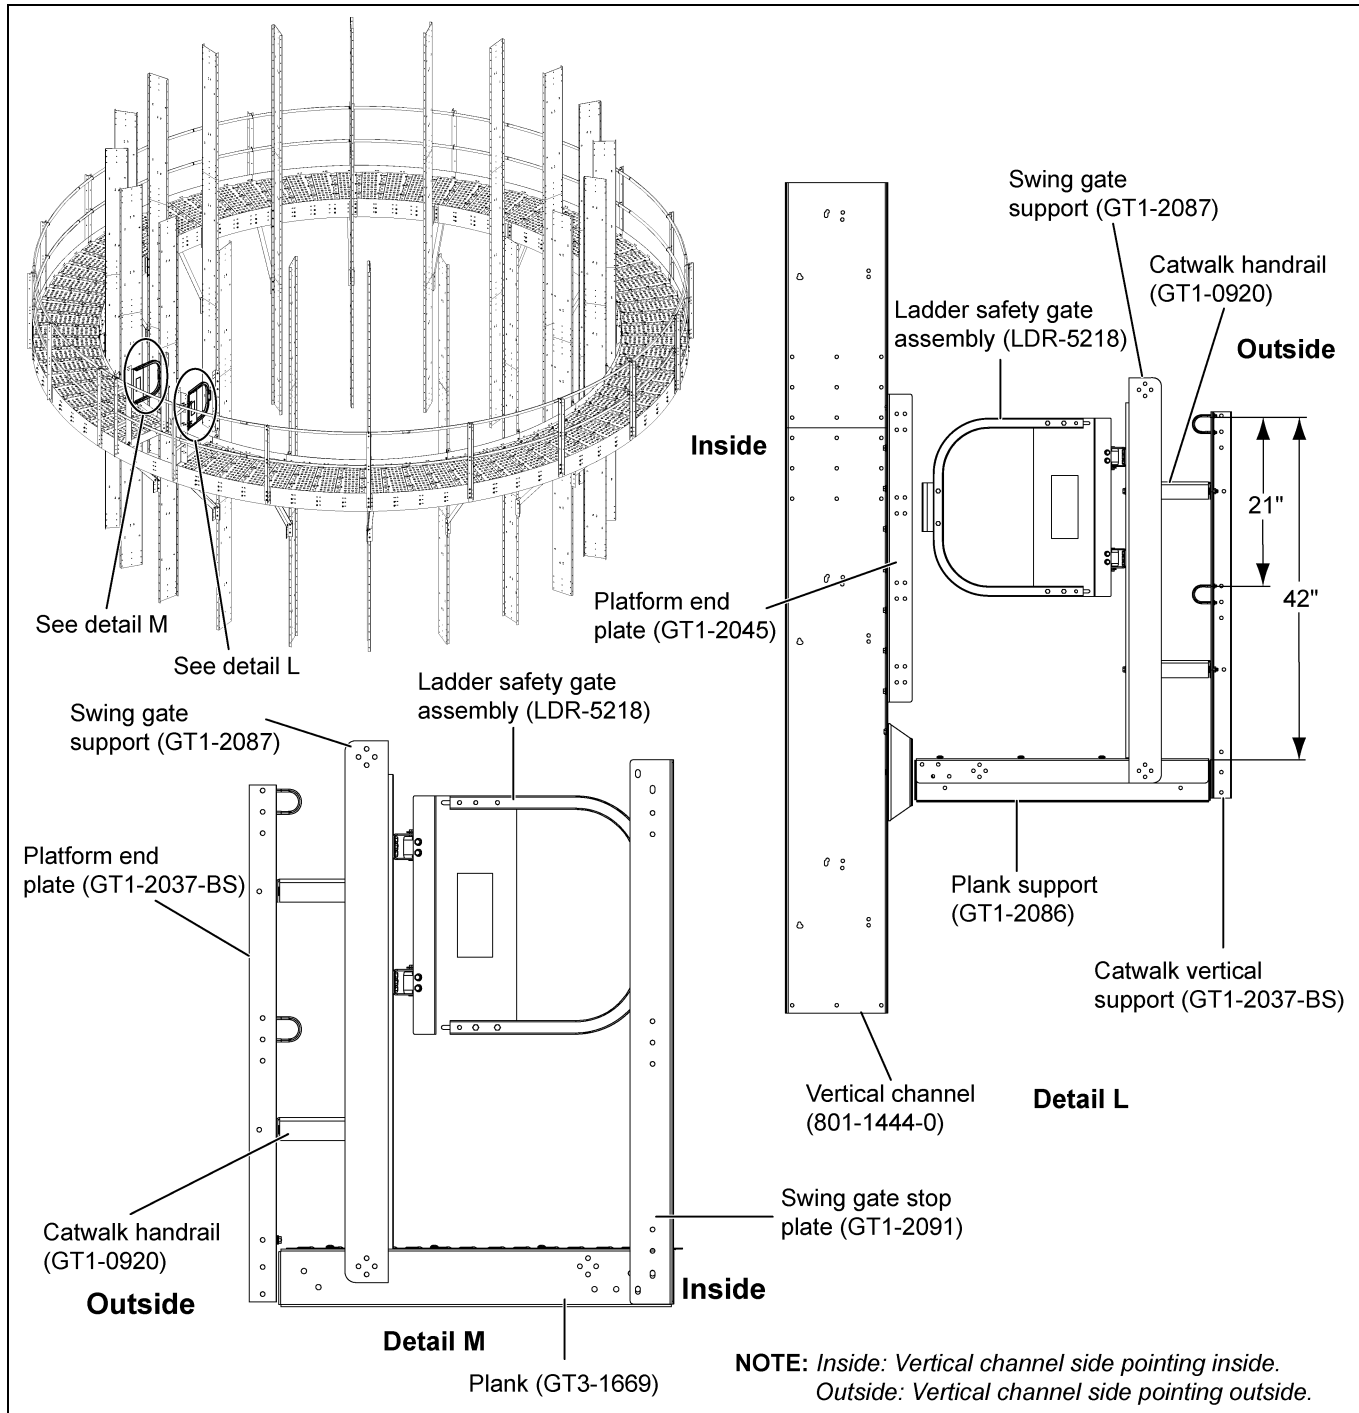

Figure 4Y
5. Install the ladder safety gate assembly (LDR-5218) to the swing gate support (GT1-2087) using 3/8"-16 x 1" JS grade 8 or grade 8.2 bolts (S-7485) and 3/8"-16 ZN grade 5 nuts (S-968). (See detail L in Figure 4Y.)
6. Install the ladder safety gate (LDR-5218) to the swing gate support (GT1-2087) and attach the stop plate (GT1-2091) to the ladder opening toe board (GT1-2659) and the plank (GT3-1669) using 3/8"-16 x 1" JS grade 8 or grade 8.2 bolts (S-7485) and 3/8"-16 ZN grade 5 nuts (S-968). (See detail M in Figure 4Y.) The distance between the plank and handrail is 42".